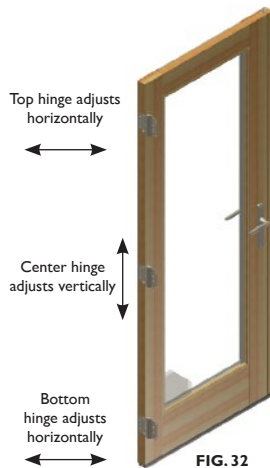

FIG. 32
- B) Hinge adjustment may be required to complete the installation. (Fig. 32)